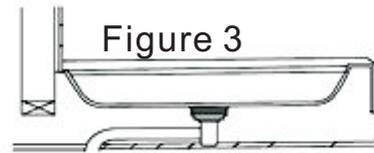

Figure 3
2. if the bathroom water level is fixed ,it can not be adjusted to be consistent with shower tray water level, you can revise it when connecting the hose . (Figure 3)